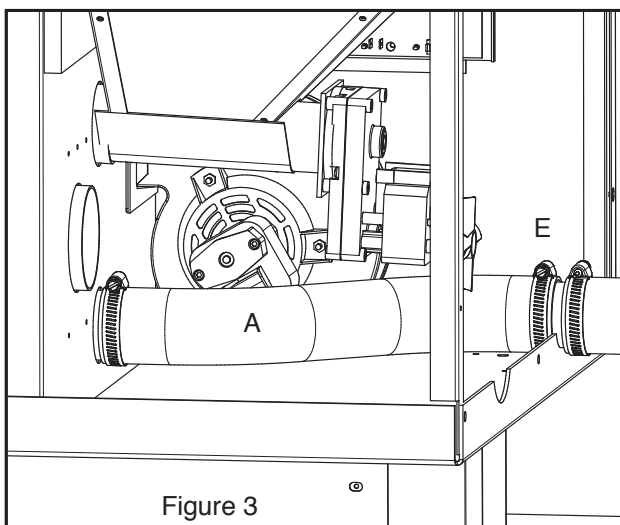

Figure 3
7. Attach one of the 2" flex hoses to the backside of the firebox, then to air inlet pipe at the back of the stove as shown in figure 3.
8. Stretch the 2" flex hose to the air inlet on the back of the stove. Attach using the other 2" hose clamp. See Figure 3. (The hose will extend up to 4 feet in length.) *For the insert model, only one flex hose will be used.*
Figure 3 shown with Exhaust Housing removed for clarity